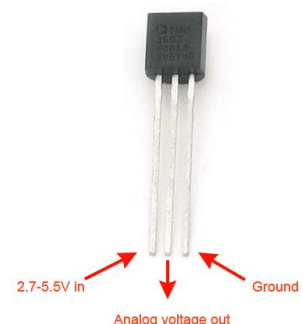

Fig.1: TMP36 Pins
Step 1. Connect a power supply (2.7V–5.5V, such as 2–4 AA batteries) to the TMP36 sensor as shown in the Fig.1.